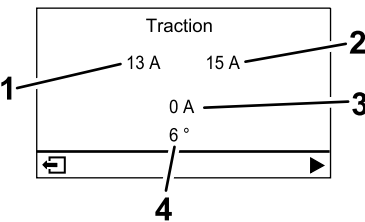

Figure 28
- **Traction motor screen (Figure 28):** shows the current steering angle and the amperage allotted to each traction motor.